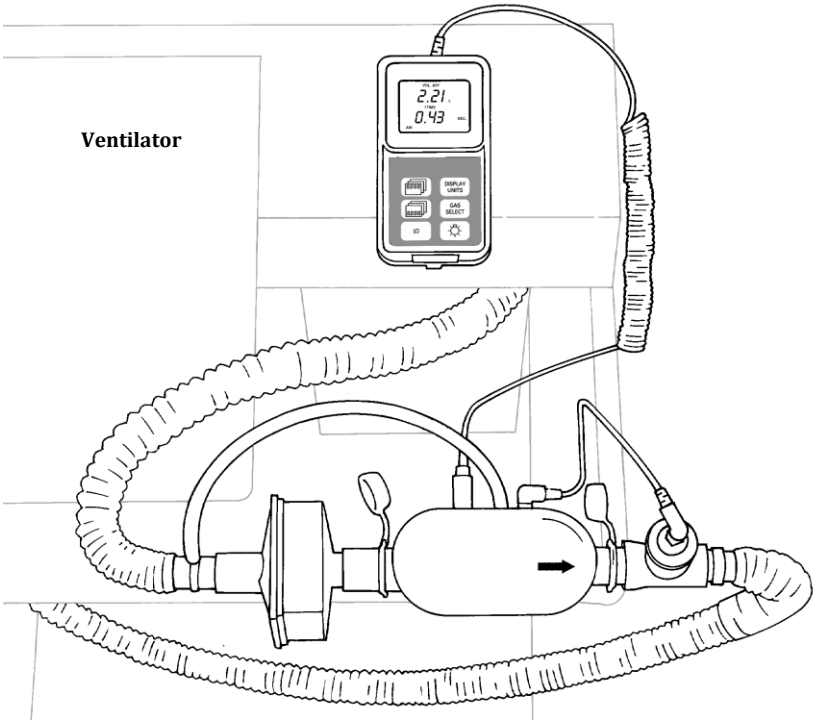
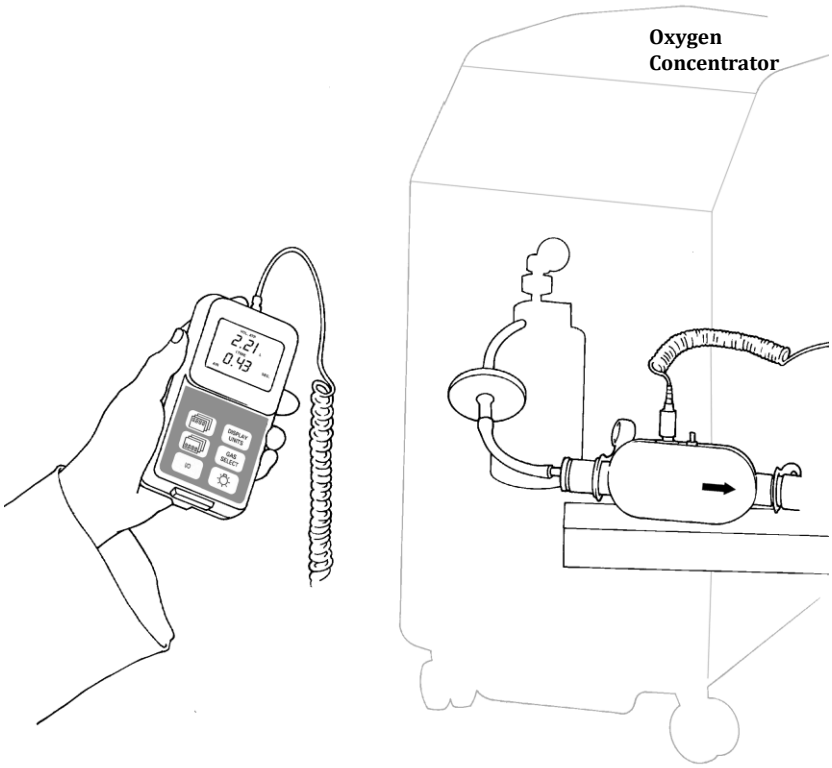

Figure 7. Installing a Flow Module into the Test Circuit
Figure 8. Certifier® FA Test System Installed in an Oxygen Concentrator Circuit
5. Install the flow module into the test circuit (Figure 7, Figure 8).